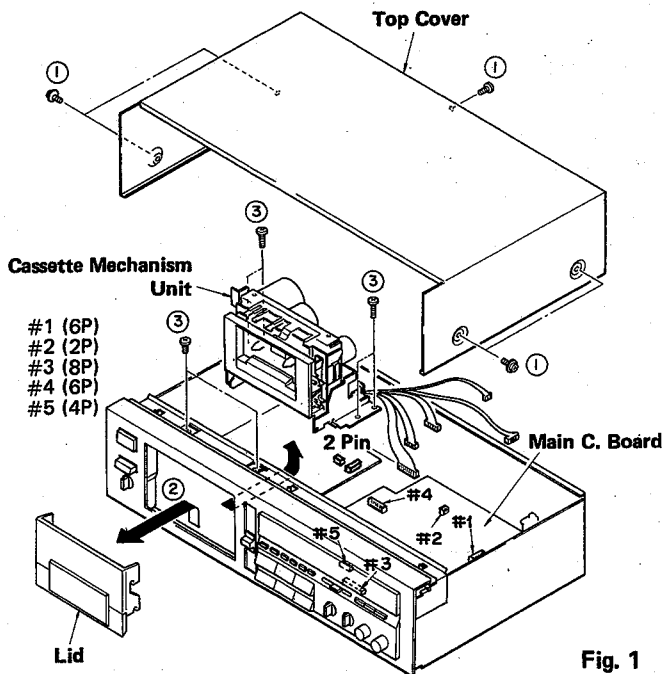

Fig. 1
- a. Remove 5 screws (①) in Fig. 1.
- b. Remove the Lid (②) in Fig. 1.
- c. Detach 5 connectors (#1 ~ #5) in Fig. 1.
- d. Detach 1 connector (2 pin) Power Transformer Unit in Fig. 1.
- e. Remove 6 screws (③) in Fig. 1 and then pull off the mechanism unit to the back side gently.